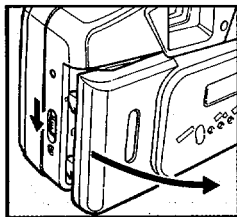

Fig.5 Abb.5 圖.5
1. Push the Back Cover Lock downward to open. **(Fig. 5)**